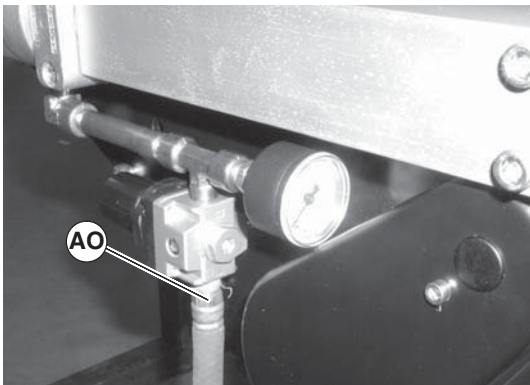

Figure 32
- Reattach air supply (Figure 32, item AO) to center drive. Refer to “Conveyor Belt Tensioning” section on page 15 for more information.